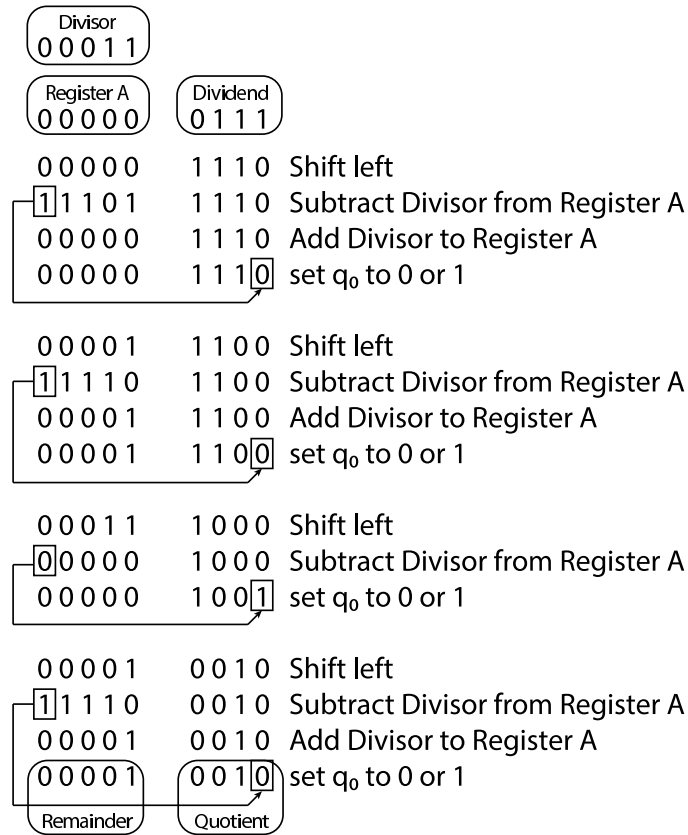
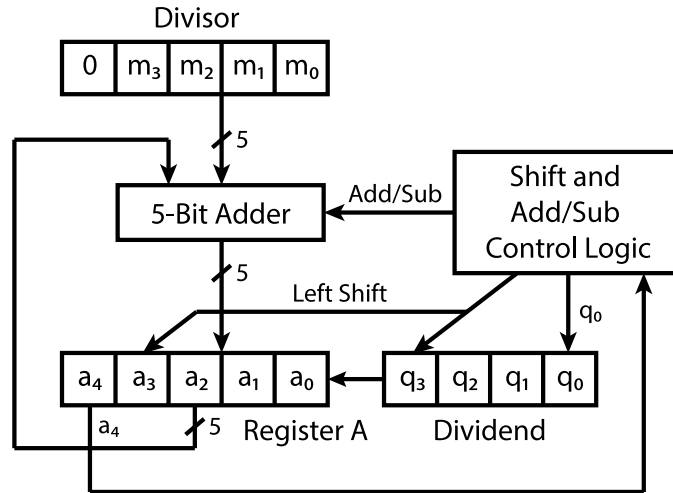

Figure 7: An example of functionality of restoring divider.
Figure 8: Block diagram of restoring divider.
Figure 7 shows an example of how the restoring divider works. The restoring divider starts with *Register A* set to 0. The *Dividend* is shifted left and the bit shifted out of the left most bit of the *Dividend* (called the most significant bit or MSB) is shifted into the least significant bit (LSB) of *Register A* as shown in Figure 8.
1. Draw a schematic for the datapath of your circuit. It will be similar to Figure 8. You should show how you will initialize the registers, where the outputs are taken, and include all the control signals that you require.